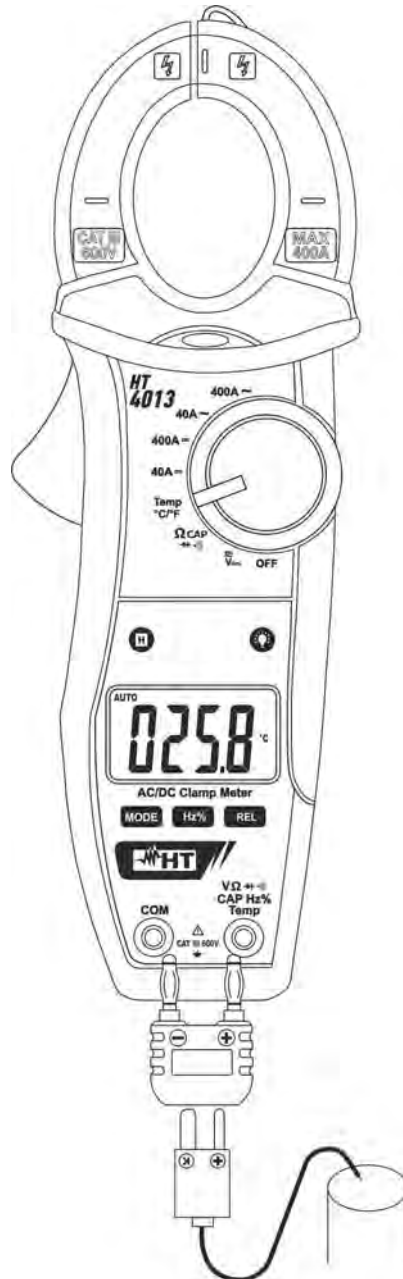

Fig. 9: Use of the clamp for temperature measurement with type K probe
3. Insert the K wire probe provided into input terminal **VΩ → ← CAP Hz % Temp** and **COM** by means of the relevant adapter, respecting the polarity indicated in Fig. 9. The display shows the value of temperature.